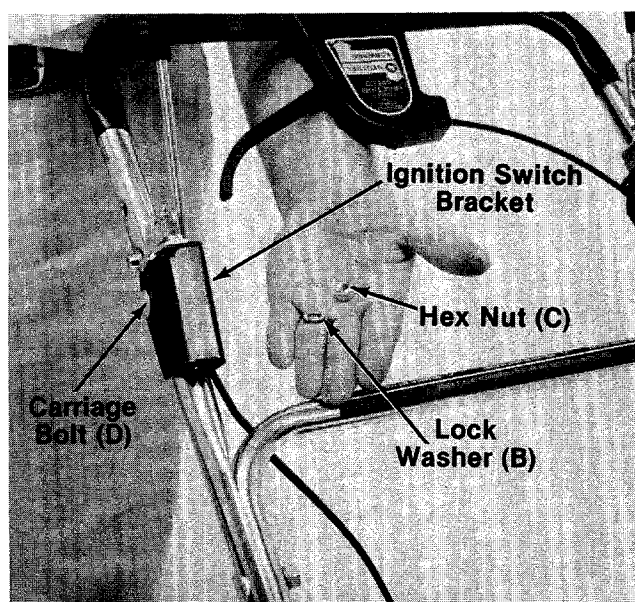

FIGURE 11.
17. Place ignition switch bracket in position on right side of upper handle as shown in figure 11. Secure with carriage bolt (D), lock washer (B) and hex nut (C).